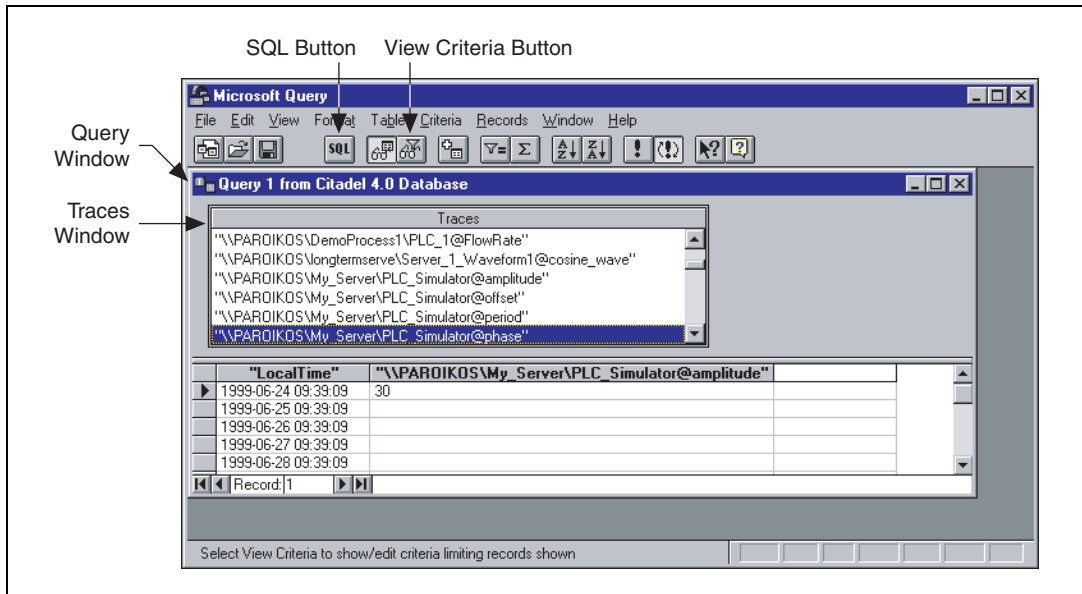

Figure B-1. The Query Window with Traces Table
Microsoft Query presents the full Query Window with the **Traces** and **Points** tables as shown in Figure B-1. The names in these tables are a comprehensive list of all name values that have been logged to Citadel.
- To view a trace, double-click or drag the field you want to view to a blank column in the data pane. In Figure B-1, `LocalTime` and `"\\PAROIKOS\\My_Server\\PLC_Simulator@amplitude"` have been dragged down.
The data set in Figure B-1 was retrieved using no specific criteria, so the ODBC driver used the default. Although there are several ways to specify criteria, this example uses the criteria pane.